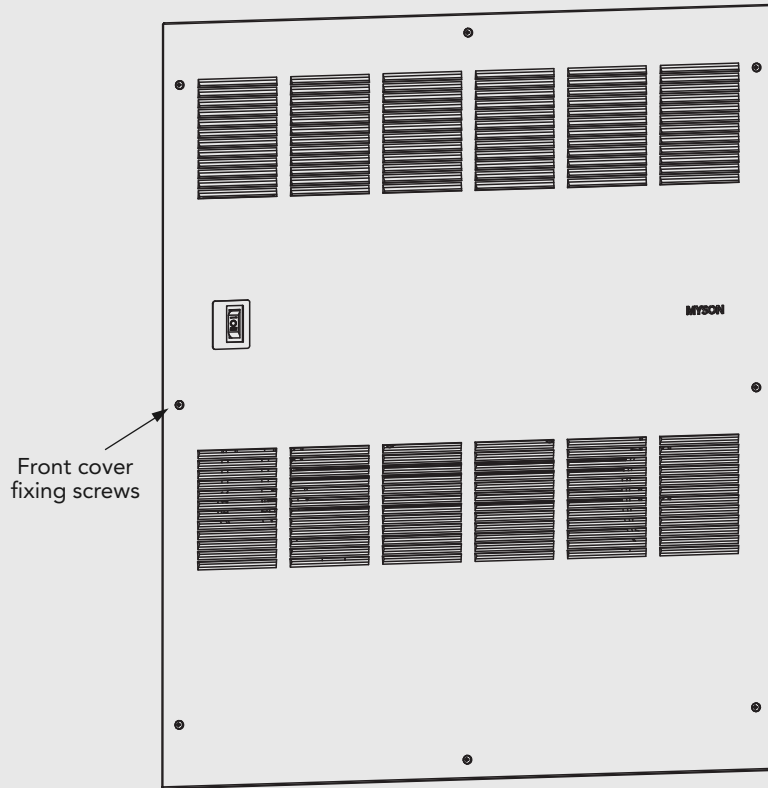

Fig. 4
- When the operation of the unit has been tested, align and secure the front cover (eight screws), see Fig 4.